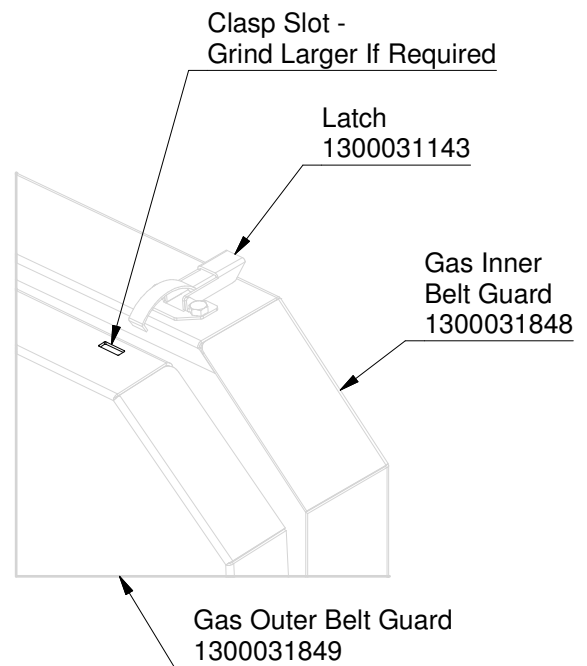

FIGURE 4
4. After the Gas Outer Belt Guard has been fastened to the Gas Inner Belt Guard, test the Latches to ensure they can clasp the Gas Outer Belt Guard easily and securely. If the Latch can't clasp the Gas Outer Belt Guard, then the clasp slot will need to be grinded until the Latch is able to clasp the Gas Outer Belt Guard. Only Grind in small increments and test the fit up consistently. Be careful to not over grind the clasp slots as the Gas Outer Belt Guard may become loose when clasped and the 2 Belt Guards will knock together when the Auger is in operation, creating unwanted knocking noises. See Figure 4.